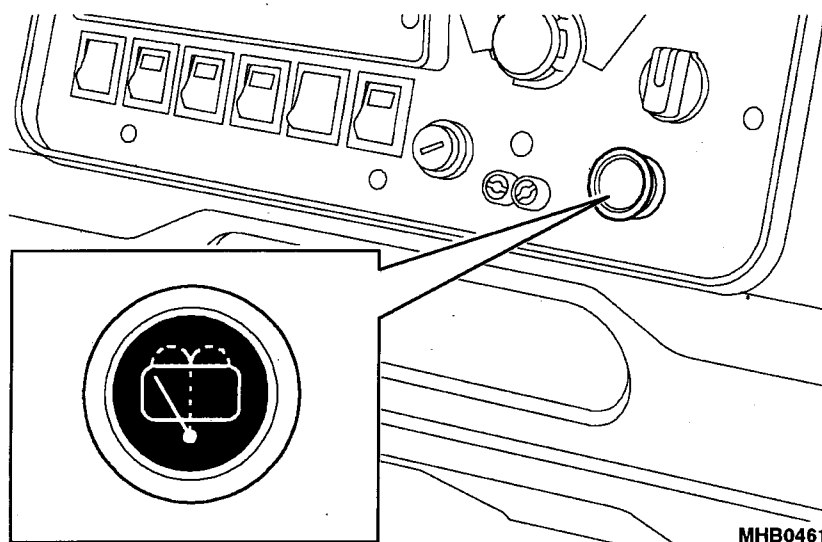

Fig 9 Rear wash/wiper switch
12. The rear screen wash/wipe switch (Fig 9) is located in the instrument console and is operated as follows: